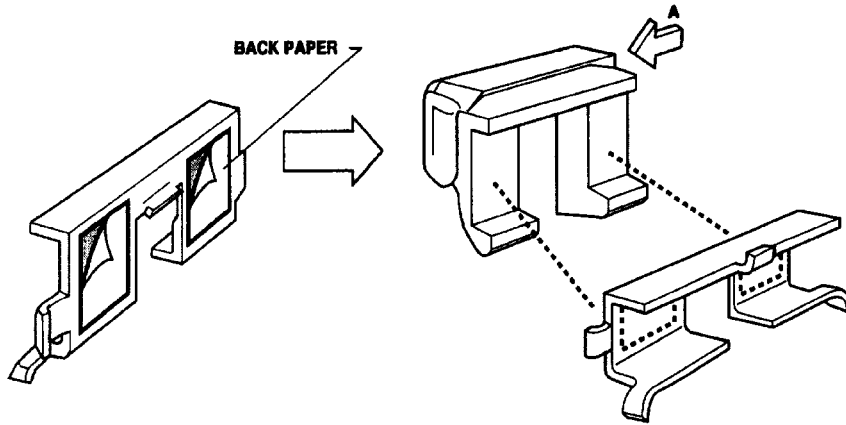

Figure 2
3. Remove the backing paper from the adhesive areas of the retainer. See figure 2.